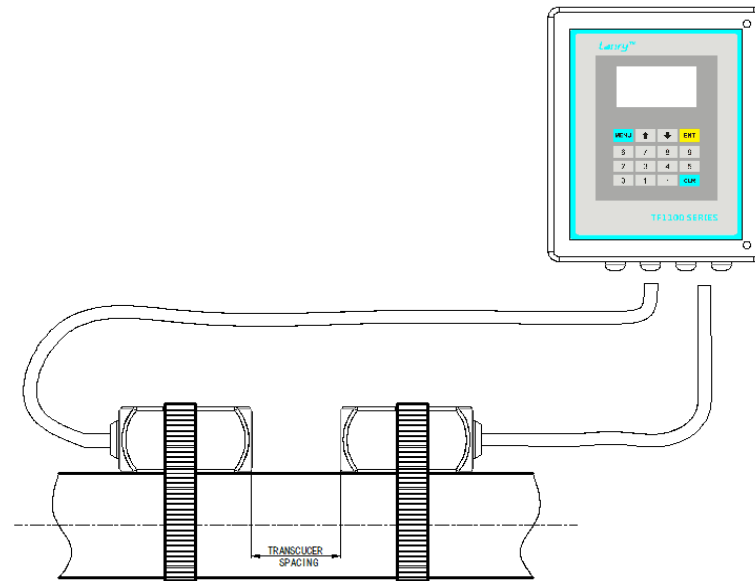

Figure 2.3 Transducer position
3. Place the downstream transducer on the pipe at the calculated transducer spacing. See **Figure 2.3**. Using firm hand pressure, slowly move the transducer both towards and away from the upstream transducer while observing Signal Strength. Clamp the transducer at the position where the highest Signal Strength is observed. A Signal Strength (Menu 90) between 60 and 95 is acceptable.